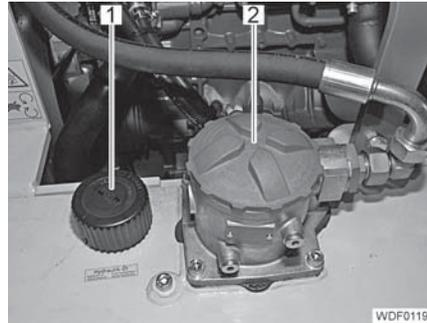

Fig. 101 Depressurizing the hydraulic system
- Open the cap (Fig. 101,1) in order to depressurize the hydraulic fluid tank.
- Briefly open the cap (Fig. 101,2) so that the hydraulic fluid can flow out of the return filter and into the hydraulic fluid tank.
- Close the 2 caps (Fig. 101,1 and 2).